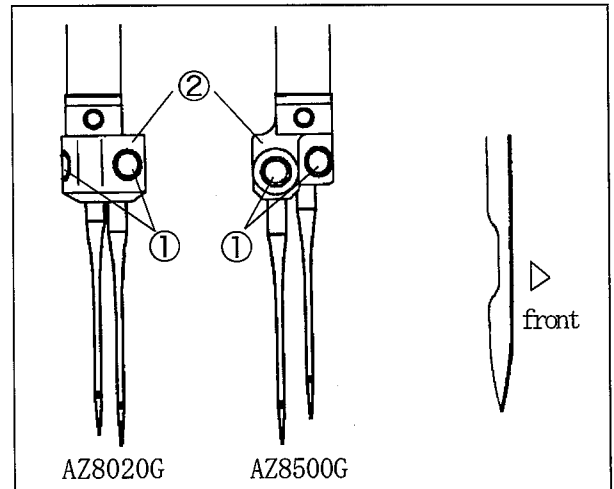
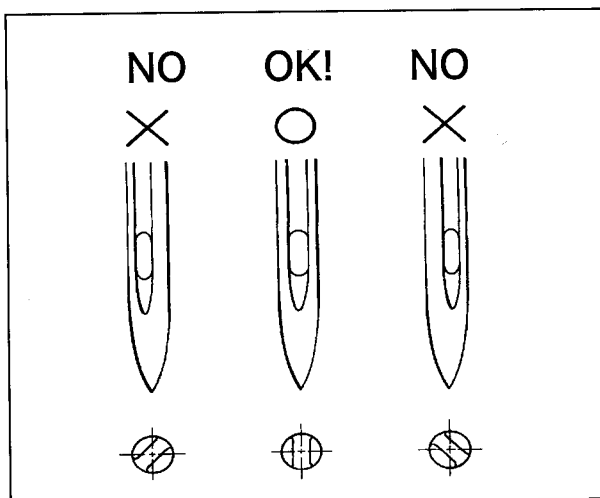

Fig. 22
Fig. 23
- (1) Loosen the screw ① with an allen wrench. (Fig. 22)
- (2) Remove the old needle with a pair of tweezers.
- (3) Insert a new needle into the needle clamp ② as far as it will go with facing its scarf to the right back. (Figs. 23 and 24)
- (4) Tighten the screw ① with an allen wrench.